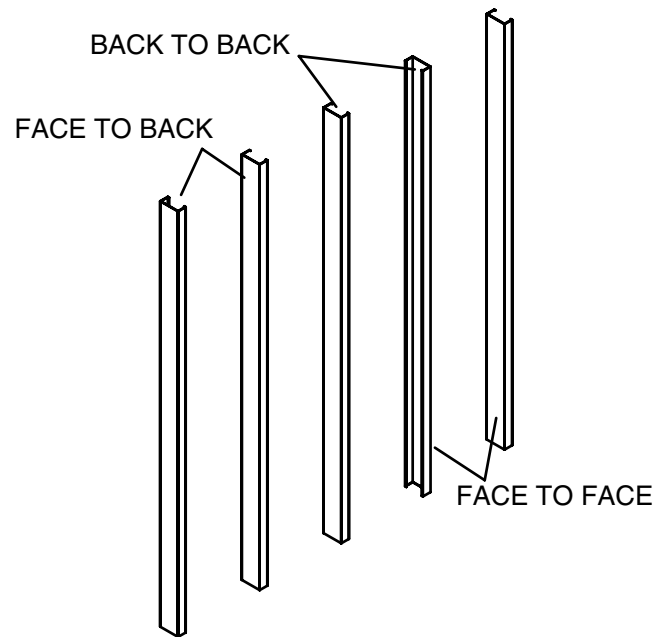

fig. 11
1. Determine the construction techniques used during the installation of the metal studs — Face to Back, Back to Back, or Face to Face. If the metal studs have been installed face to back (standard procedure), or back to back, proceed to the next step. (please see fig. 11) If the metal studs have been installed face to face, proceed to step 4.
- One (1) - Installation Aid/Mounting Bracket
- Two (2) - Metal Stud Mounting Brackets (if the studs are face to back) or
- Four (4) Metal Stud Mounting Brackets (if the